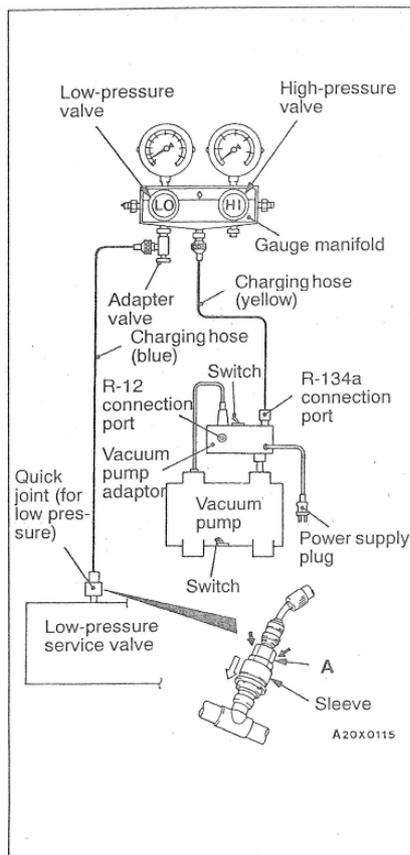

Fig. 21-5
5. CHARGING (see Fig.21-5, Fig.21-6, Fig.21-7, Fig.21-8)